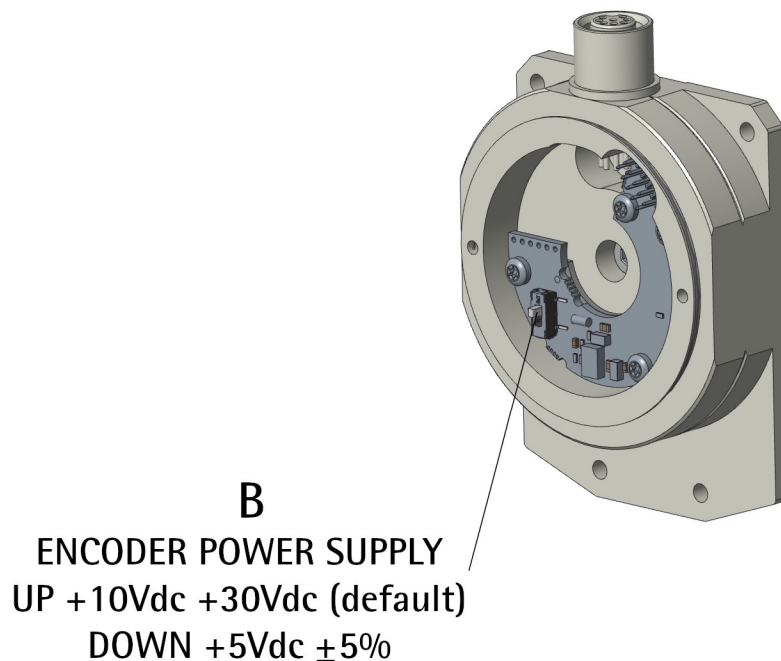

Figure 5 - POWER SUPPLY DIP switch
Before switching the power on, please read carefully the "4.1.1 POWER SUPPLY DIP switch (Figure 5)" section on page 29.
4.1.1 POWER SUPPLY DIP switch (Figure 5)